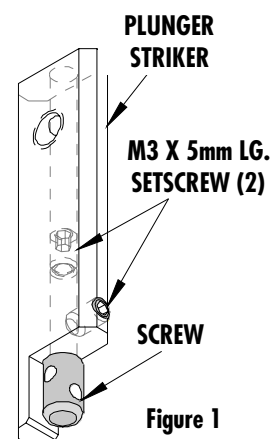

Figure 1
1. The screw is provided for wire straightening. See Figure 1.
2. Loosen the (2) M3 x 5mm long setscrews; see Figure 1, before turning the screw.
3. Start by adjusting the screw so it just touches the insulation outside diameter of the wire being crimped. If wire Bend Up exists, turn the screw a quarter turn clockwise (CW) to lengthen it.